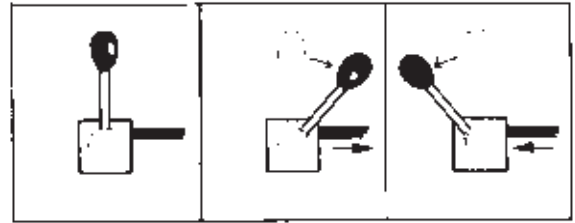

Figure 4
1. Place the valve handle in the neutral position as shown in Figure 4.
3. To advance the cylinder, position the valve handle as shown in Figure 4. Place the valve handle in neutral again to stop the cylinder and hold pressure.
4. To retract the cylinder, position the lever as shown in Figure 4. Place the valve handle in neutral to stop the cylinder.